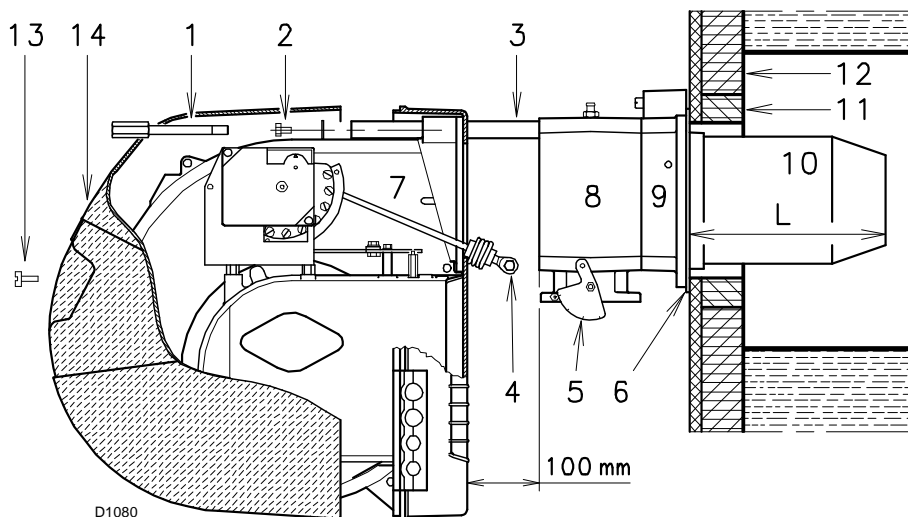
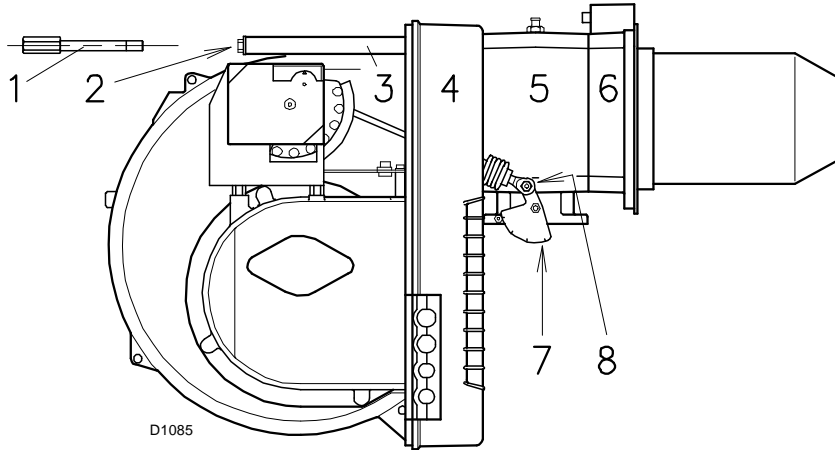

Fig. 12
Fig. 15
For boilers with front flue passes 13)(Fig. 12), a protection in refractory material 11) must be inserted between the boiler refractory 12) and the blast tube 10).
For boilers with a water-cooled front piece, a refractory lining 11)-12)(Fig. 12) is not necessary, unless expressly requested by the boiler manufacturer.
Separate the combustion head from the rest of the burner, as shown in Fig. 12; proceed as follows:
- refit the burner 4)(Fig. 15) on the guides 3) at about 100 mm from the pipe coupling 5) - burner in the position shown in Fig. 12 on page 17;
- insert the probe cable and the electrode cable, then slide the burner as far as the pipe coupling, with the burner in the position shown in Fig. 15.